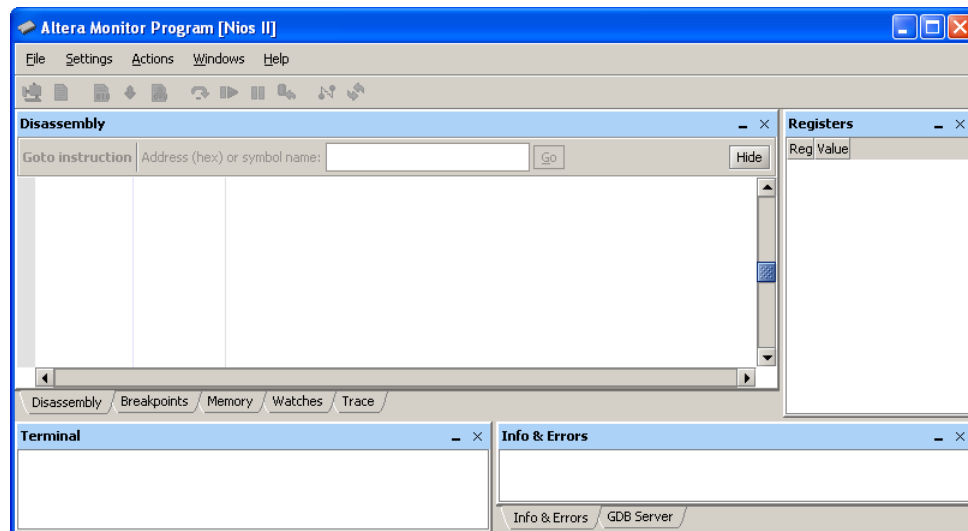

Figure 1: The Altera Monitor Program window.
2. Open the Altera Monitor Program, which leads to the window in Figure 1.